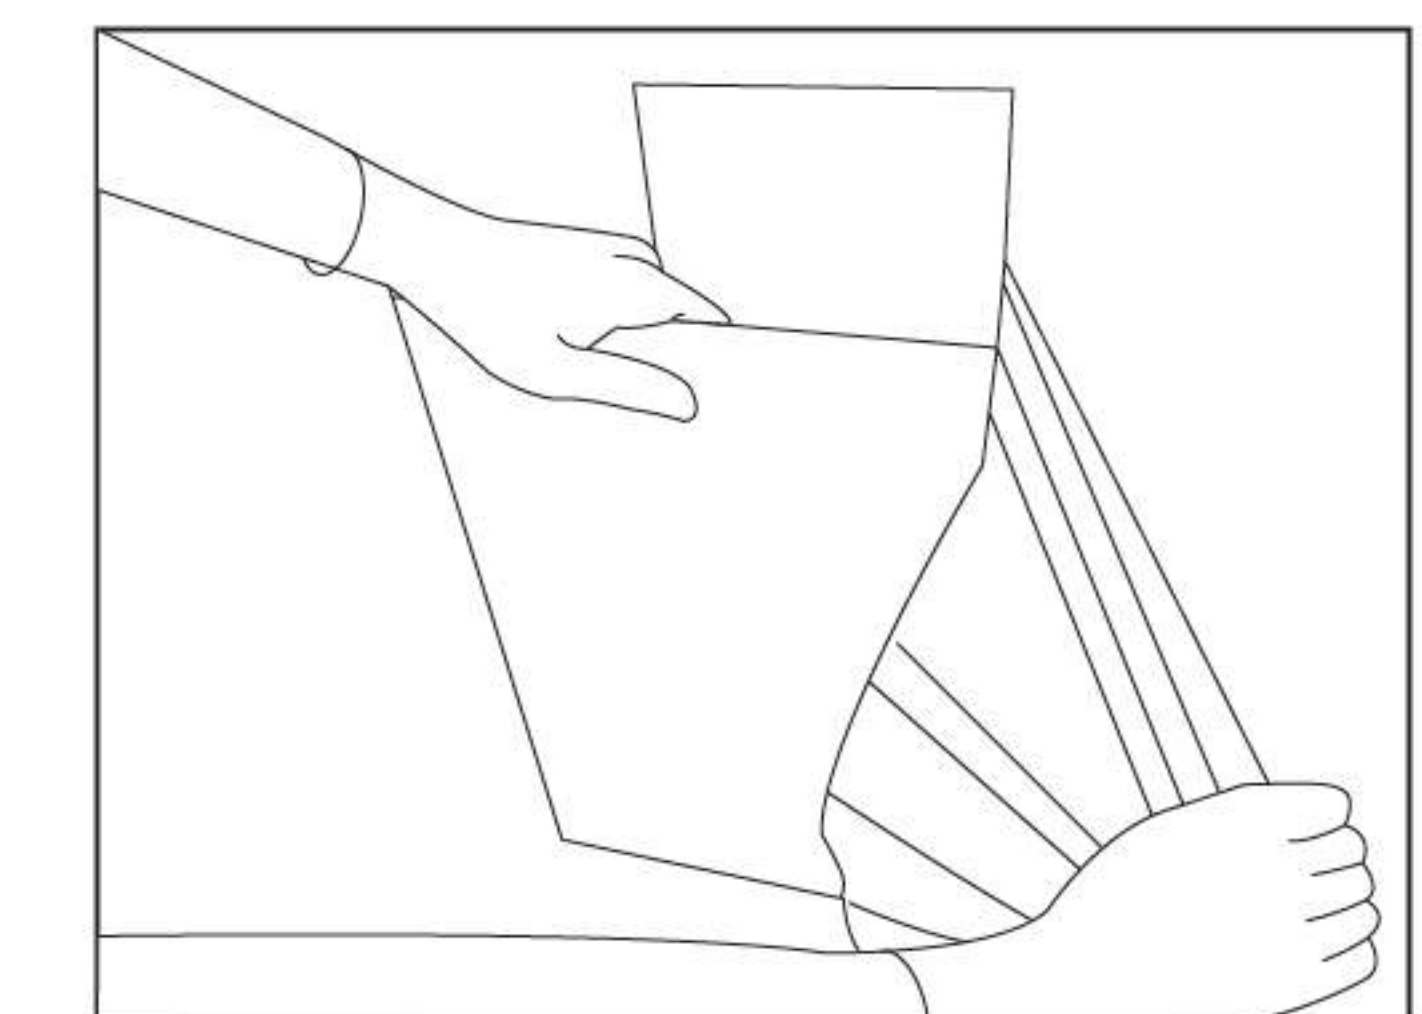

fig10
9. Tear the films: tear off the protective films of the fan cover and the decorative cover; Cautions: wear protective gloves; (fig 10)